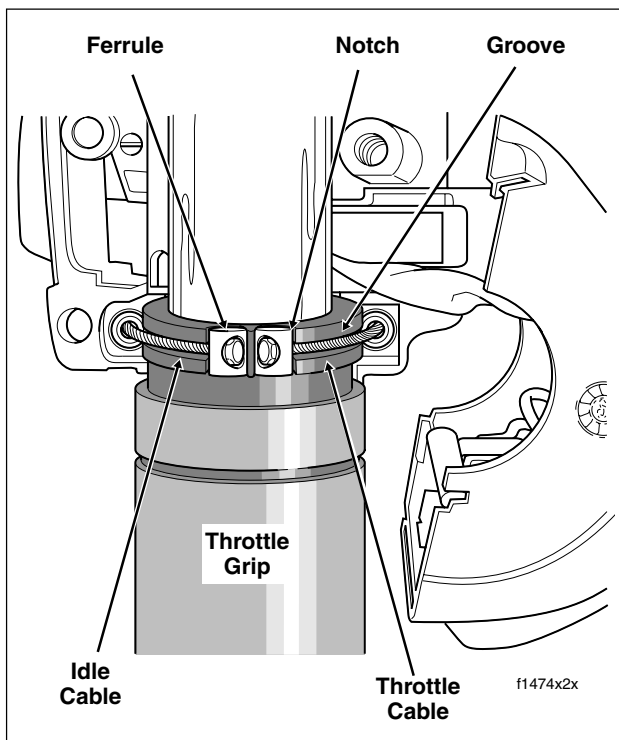

Figure 2-110. Install Throttle/Idle Control Cables on Throttle Control Grip
5. Position the lower switch housing beneath the throttle control grip. Install the brass ferrules onto the cables so that the end fittings seat in the ferrule recess. Seat the ferrules in their respective notches on the throttle control grip. Verify that the cables are captured in the grooves molded into the grip. See Figure 2-110.